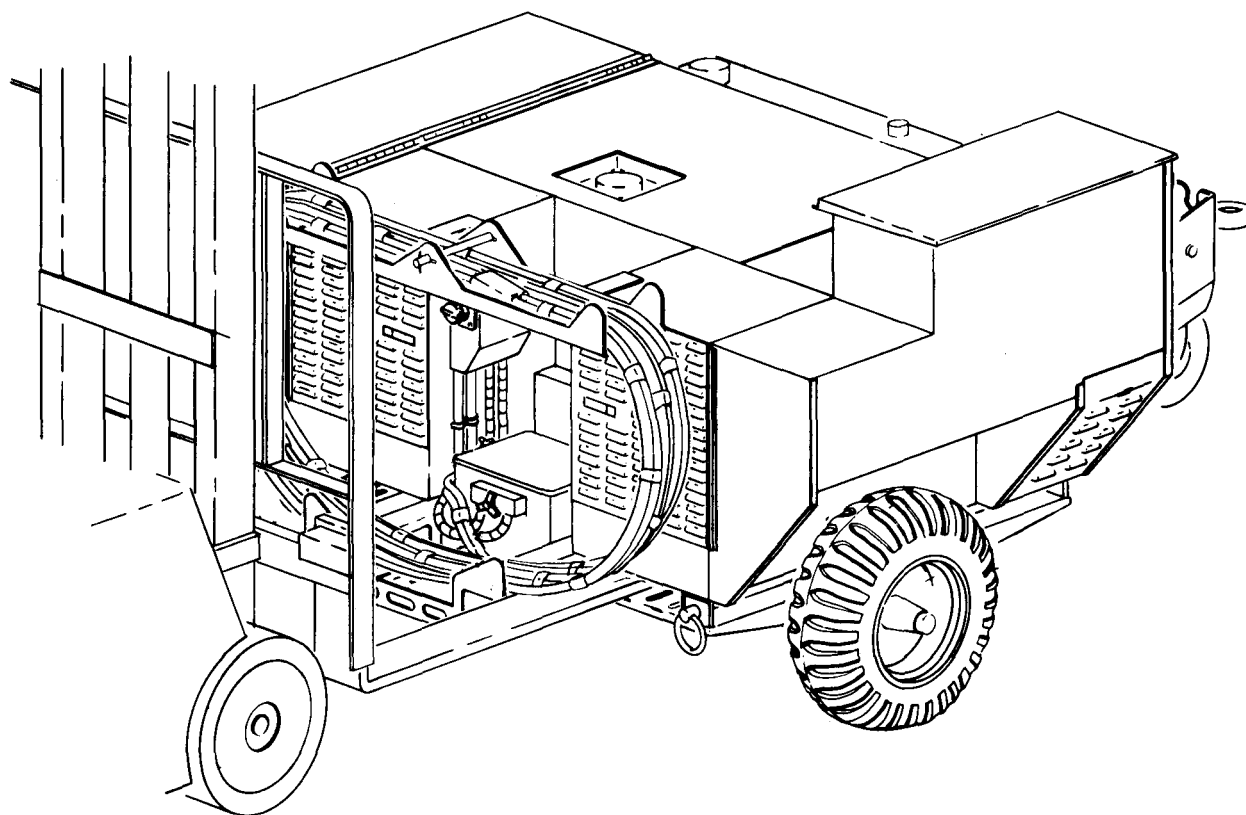

Figure 4-6. Movement by Forklift
(4) Slowly lift generator set and move to new worksite.
d. Movement by Forklift. The generator set can be moved short distances with a forklift. The generator set must be lifted from the rear using the forklift tubes (figure 4-6).